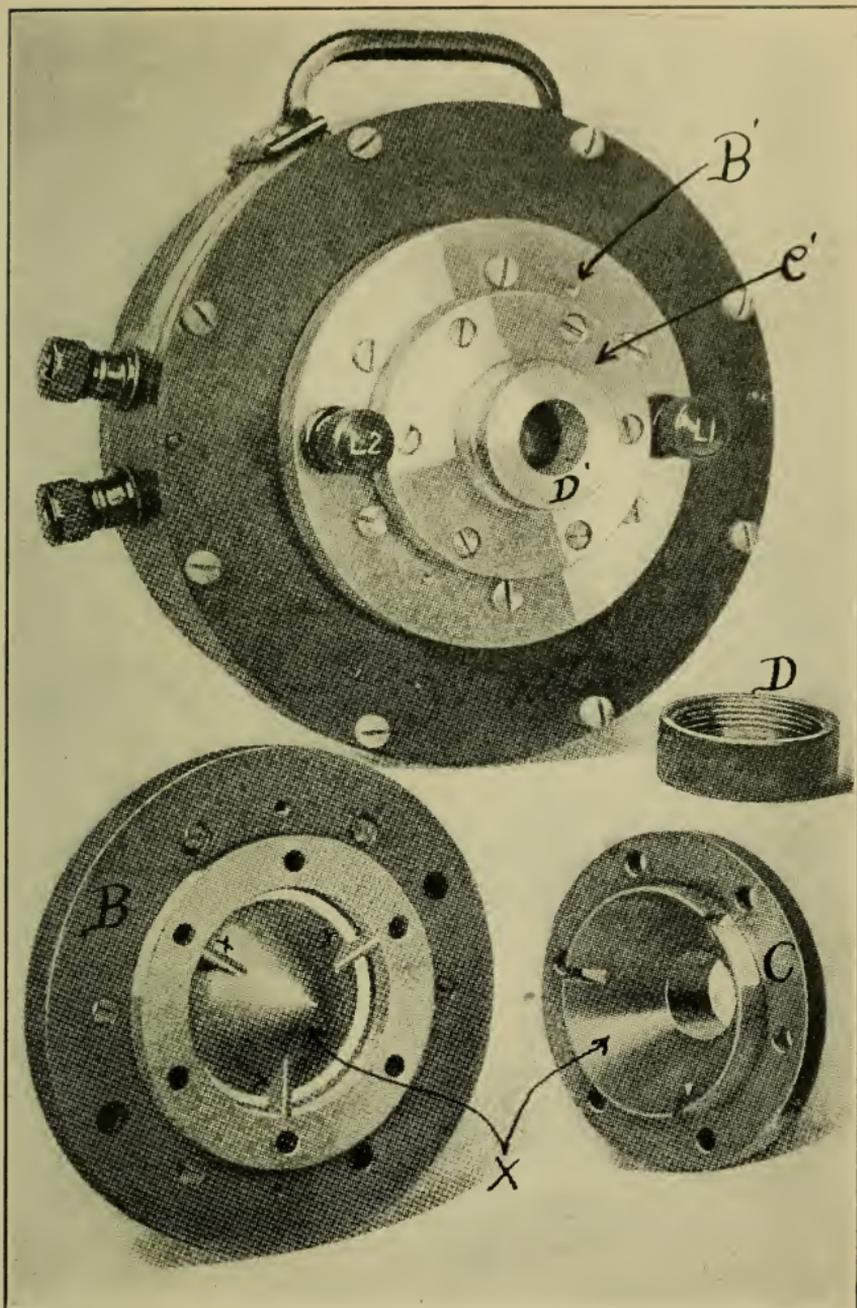

Figure 398.
Fig. 398 shows the receiver unit complete, all ready for attachment to the horn. B is the receiver front plate. C is the part which is mounted in front of B to complete the sound chamber, the two faces of which are shown at X. The receiver unit has a threaded boss permitting its attachment to the horn. B' and C' indicate parts B and C in place upon the receiver, where they are locked into position by nut D.
the figure. B is the coil which, energized by the main or field coil C, drives or energizes diaphragm A. D is the damping plug, the purpose of which is to shape the tone chamber for proper distribution of the air pressure waves. It contributes very largely to the efficiency of the unit. It does not lie upon the diaphragm, but is supported by three radial ribs, X X X, B, Fig. 398.
- A—Complete receiver, Fig. 398, rear view.